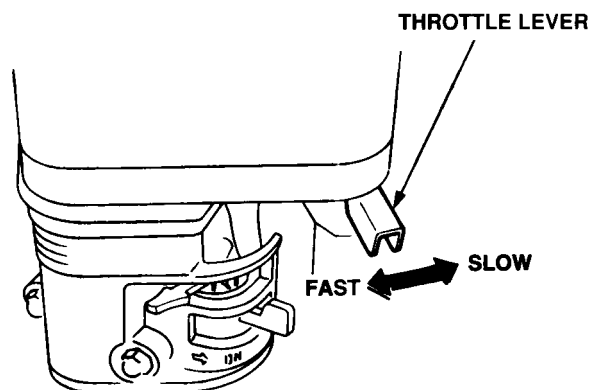

Figure 14. Throttle Lever
4. Place the throttle lever (Figure 14) halfway between **FAST** and **SLOW**.
1. Place the throttle lever (Figure 14) in slow position, and listen for the engine speed to decrease.